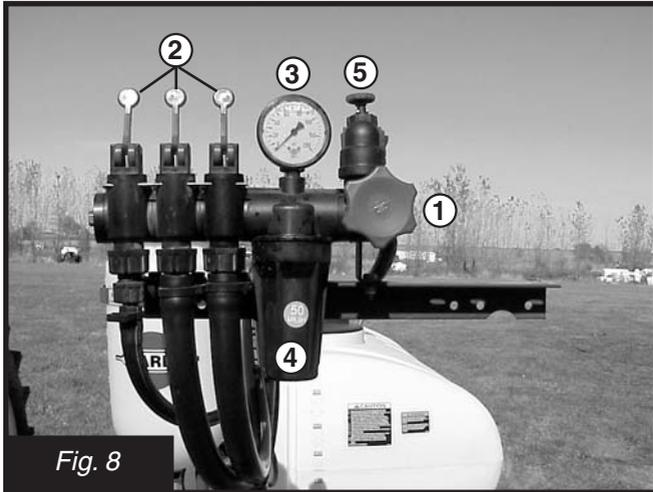
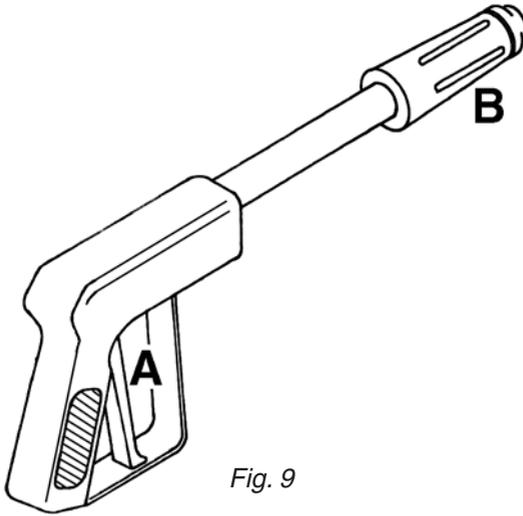

Fig. 8
Fig. 9
2. Set the two inside distribution valves **2** (Fig. 8) to the ON position (pull hand levers forward & down).
3. Turn the pressure control valve **1** (Fig. 8) counter-clockwise all the way out.
5. Increase pressure by turning the pressure control valve **1** (Fig. 8) clockwise. Adjust until the pressure gauge **3** (Fig. 8) indicates the recommended pressure (turning the pressure control valve **1** (Fig. 8) counter-clockwise decreases pressure).
6. To operate the spraygun, set the outside distribution valve **2** (Fig. 8) to the ON position (pull hand lever forward & down).
7. Then depress the red handle **A** (Fig. 9) to spray fluid from the spraygun. Check the pressure on the pressure gauge **3** (Fig. 8) and follow step **5** to adjust.
8. To adjust the spray pattern, turn the black handle **B** (Fig. 9) OUT for a narrow spray pattern for long distances and IN for a wide pattern for more coverage at close distances.
Turning the agitation valve 5 (Fig. 8) clockwise will reduce the agitation flow. Turning the valve counter-clockwise will increase the agitation flow.